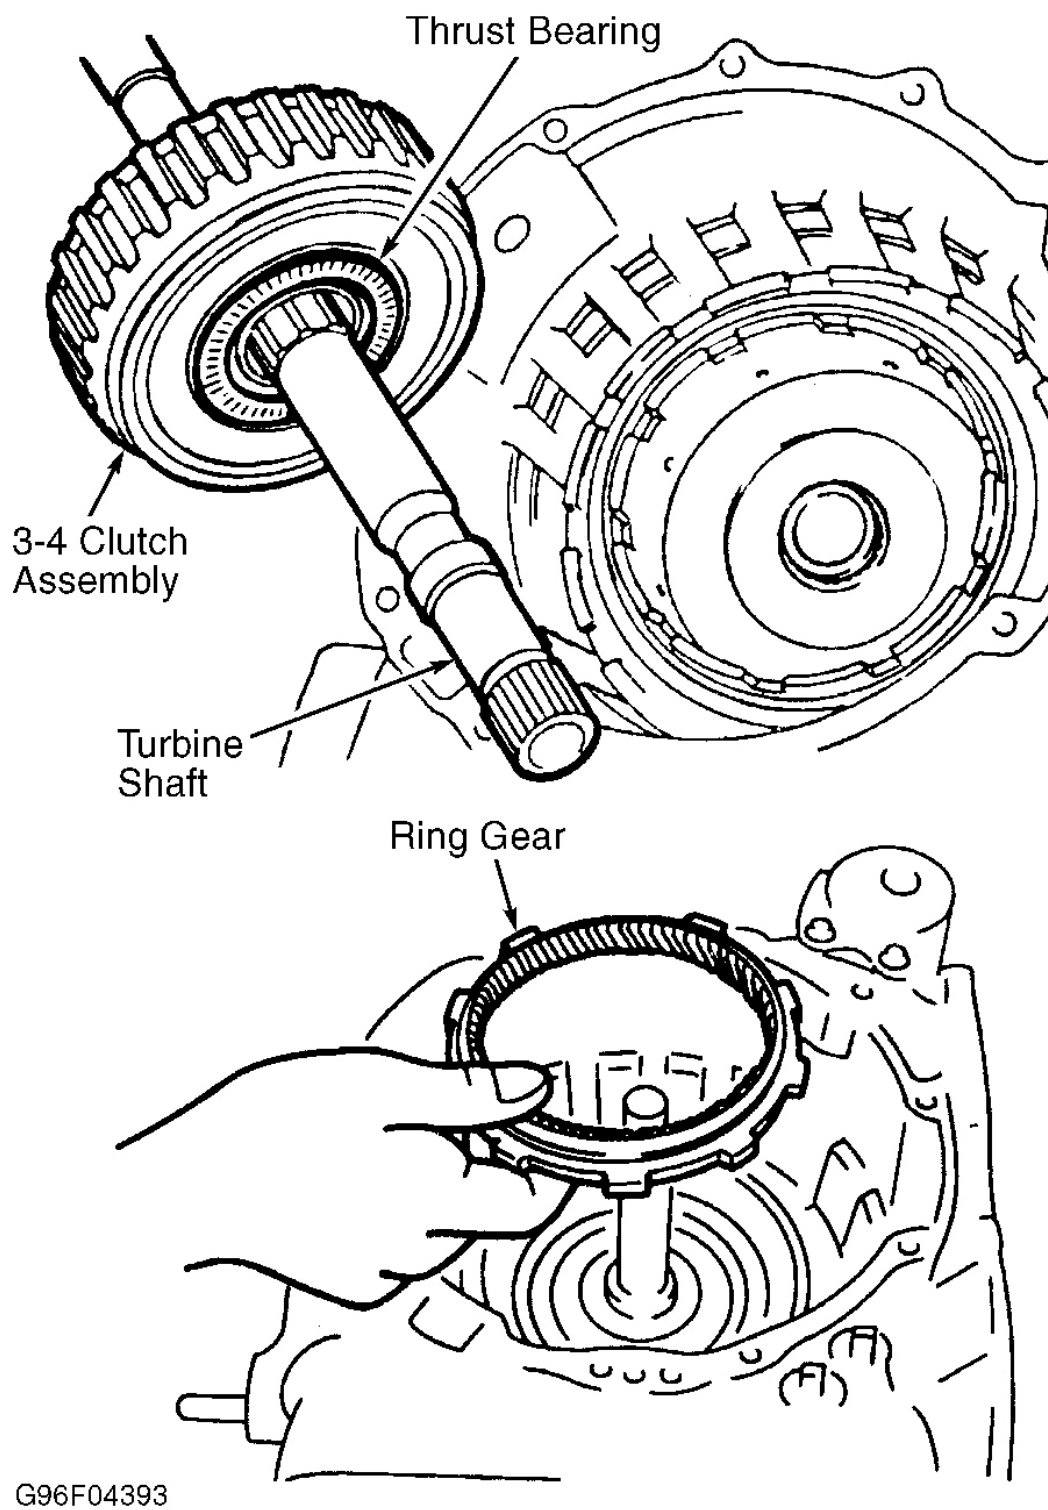

Fig. 40: Installing Turbine Shaft, 3-4 Clutch Assembly & Ring Gear
11. Ensure needle bearing and thrust washer are installed between 3-4 clutch and output shell. See **Fig. 50**. Install 3-4 clutch, needle bearing and turbine shaft assembly into case. See **Fig. 40**. Install Turbine Shaft Holder (T88C-77000-KH) to turbine shaft. Ensure converter turbine shaft seal is installed on inner groove of turbine shaft.